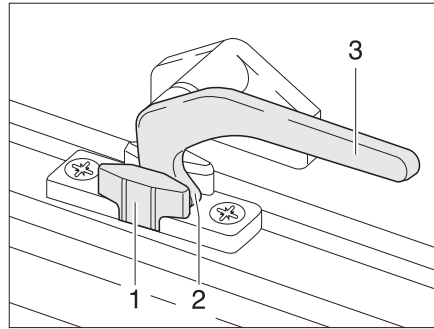

Fig. 74 Catch lever in the "continuous ventilation" position
- "Continuous ventilation" (Fig. 74)
- Turn the catch lever (Fig. 74,3) a quarter turn towards the centre of the window.
- Turn the catch lever a quarter turn towards the window frame. The locking catch (Fig. 74,2) has to be moved into the recess of window catch (Fig. 74,1).